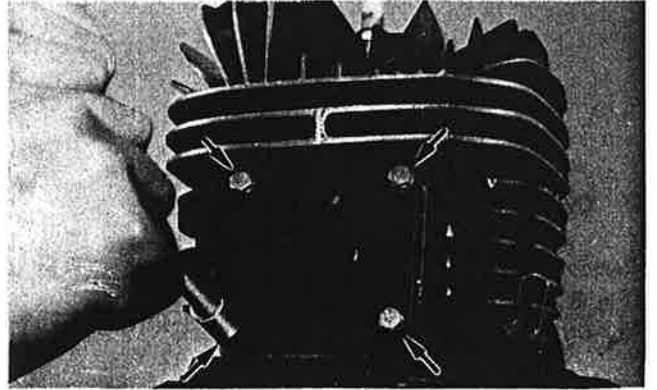

Fig. 3-2-1
Remove reed valve assembly holding bolts (4), carburetor joint and reed valve assembly. (Fig. 3-2-1)